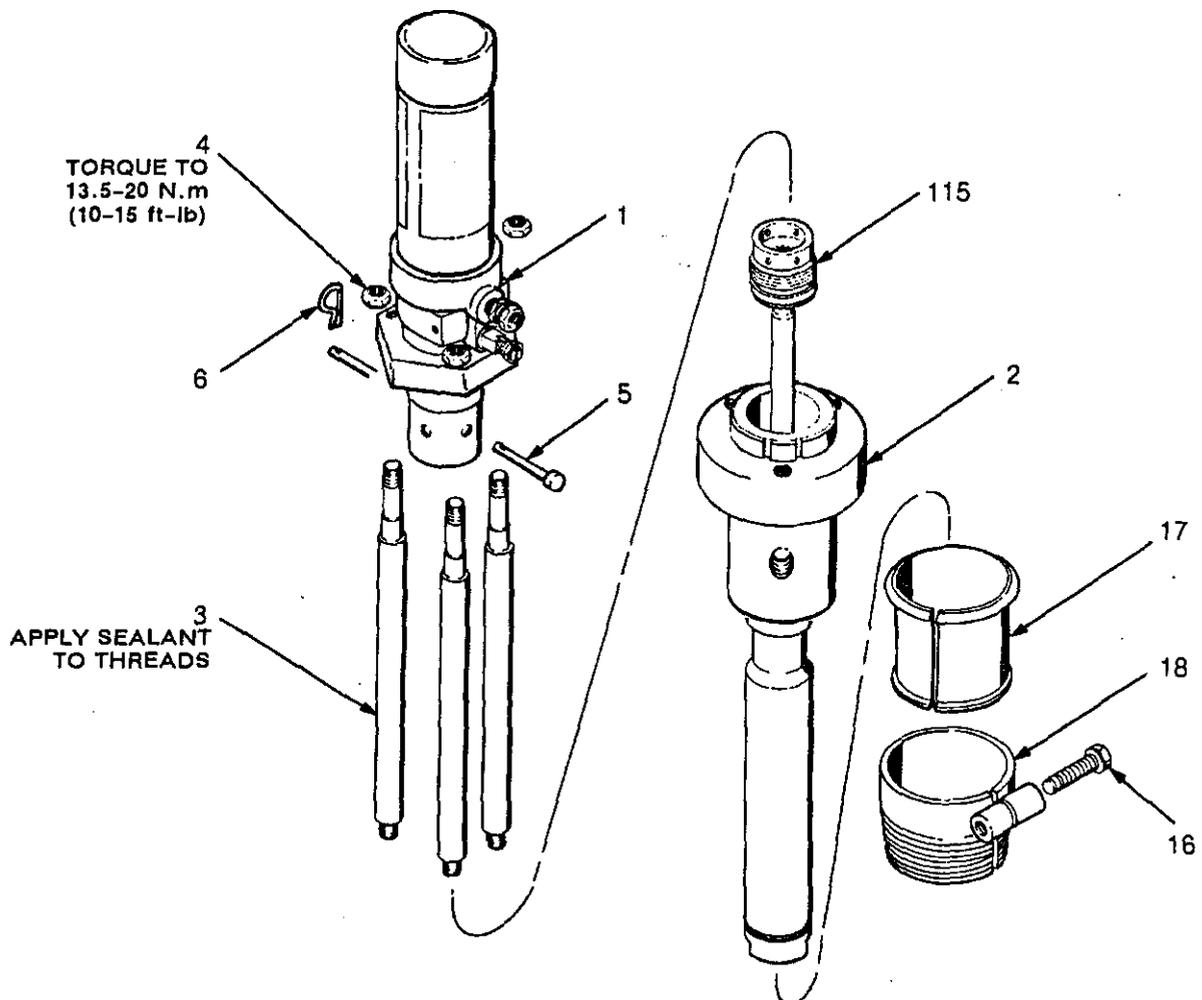

Fig. 4
DISPLACEMENT PUMP SERVICE (See Figs. 4 & 5)
3. Disconnect the air and fluid hoses. Unscrew the bung adapter (18) and pump from the mounting. Loosen the screw (16) and remove the bung adapter from the pump.
4. Remove the three locknuts (4) and unscrew the tie rods (3). See Fig. 4.
5. Remove the spring clip (6) and pin (5) holding the coupling (115) in the air motor (1). Unscrew the coupling from the air motor. Pull the air motor (1) off the displacement pump (2).
12. Install the ball (110) in the piston stud (108). Press fit the ball stop pin (109) in the hole of the piston stud so it is flush with or below the stud's surface. Apply thread sealant to the displacement rod (107) threads and screw the piston stud (108) onto the rod. Torque to 20.3-27 N.m (15-20 ft-lb).
13. Install the piston packing (121*) on the piston stud (108). Apply sealant to the threads of the piston stud (108) and screw the piston nut (111) onto the stud. Torque to 20.3-27 N.m (15-20 ft-lb).
14. Lubricate the o-ring (112) and install it in the outlet housing (113). Lubricate the threads of the cylinder (101) and screw it into the outlet housing. Torque to 34-40 N.m (25-30 ft-lb). Push the displacement rod (107) up into the pump cylinder from the bottom until it clears the packing nut (114).
15. Apply sealant to the threads of the displacement rod (107) and screw the coupling (115) onto the rod. Torque to 20.3-27 N.m (15-20 ft-lb).
16. Torque the packing nut (114) to 34-40 N.m (25-30 ft-lb).
17. Install the pin (106) in the ball guide (105). Insert the ball guide into the pump cylinder (101) so the pin (106) is toward the top of the pump.
18. Install the gasket (103*) on the intake valve (102). Place the ball (104) on the seat of the intake valve, and screw the valve into the cylinder. Torque to 34-40 N.m (25-30 ft-lb).
19. Screw the coupling (115) into the air motor (1). Line up the holes and secure with the pin (5) and spring clip (6). See Fig. 4.
20. Apply sealant to the threads of the tie rods (3) and screw the rods into the outlet housing (113). Mount the air motor (1) on the tie rods (3). Screw the locknuts (4) onto the tie rods loosely.
21. Reinstall the bung adapter (18) on the pump. Lower the pump through its mounting and screw the pump and bung adapter into the mounting.
23. Run the pump slowly to check for binding of the tie rods. Adjust as necessary and torque the locknuts (4) to 13.5-20 N.m (10-15 ft-lb).